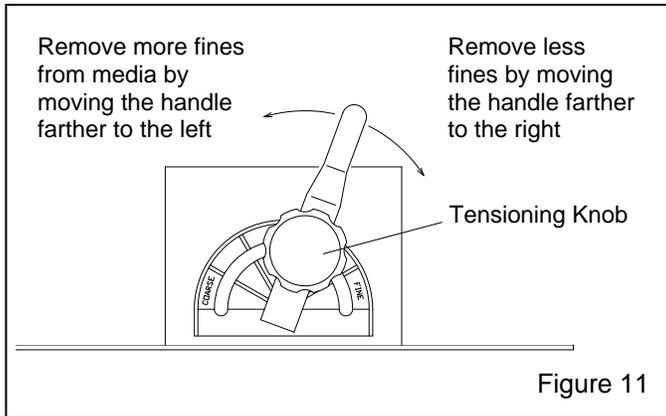

Figure 11
5.5 Optional Externally-Adjustable Vortex Cylinder Figure 11, Not available for 300 cfm reclaimer
5.5.1 The vortex cylinder is located atop the reclaimer where the flex hose connects. Adjustments are made by loosening the handle's tensioning knob and moving the handle to achieve the correct setting. When the correct setting is established, tighten the locking knob to prevent movement. Start with the lever slightly to the right (about one o'clock as shown in Figure 11) of the vertical position.